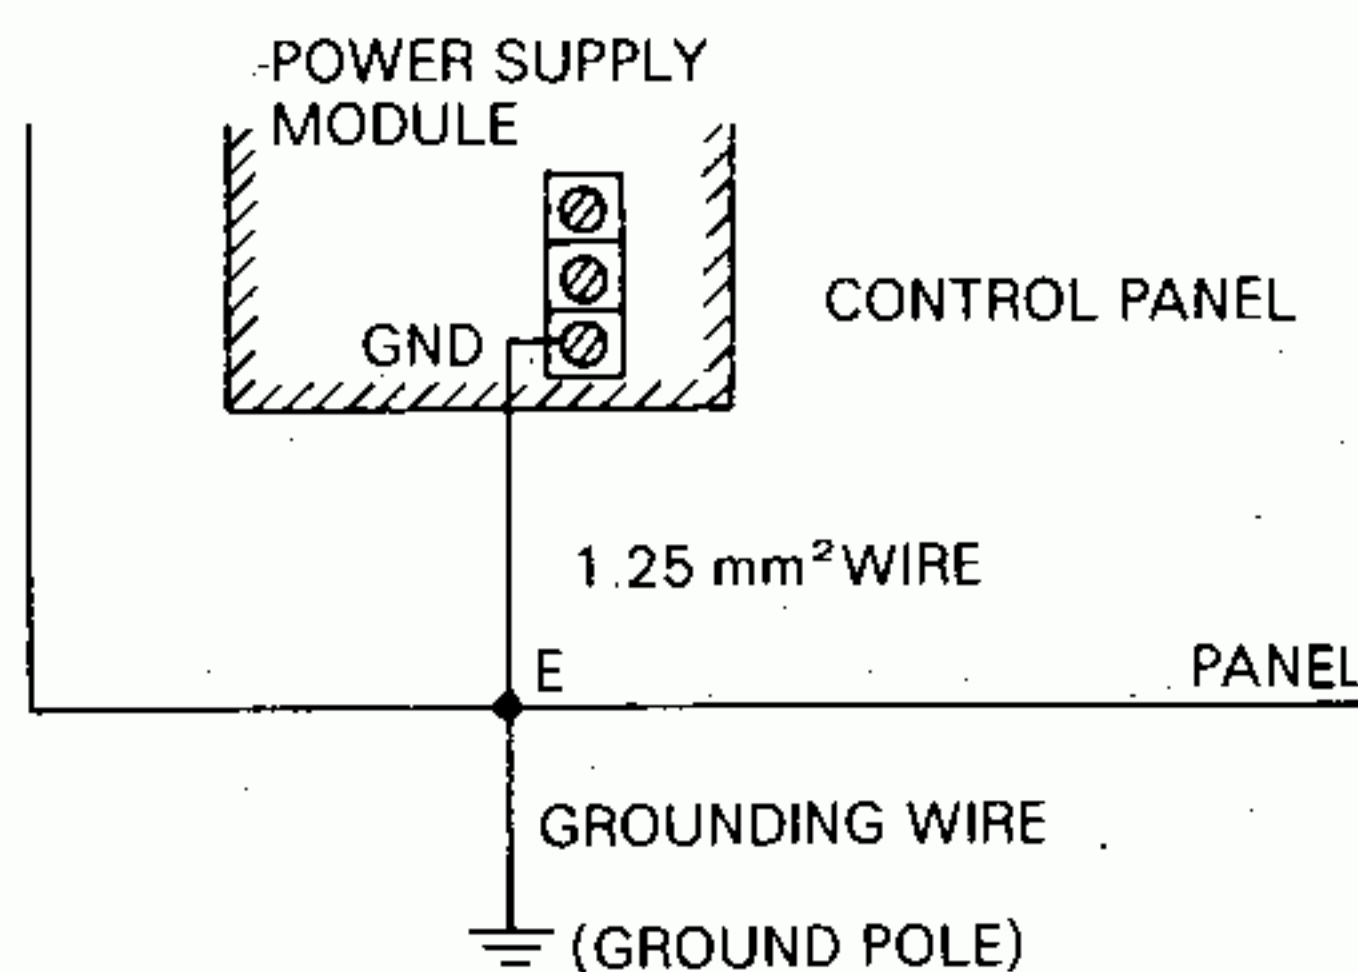

Fig. 8.24 Grounding Wire
- The GND terminal of the power supply module should be connected to the control panel housing, as shown in Fig. 8.24 at E, and connecting point E should be connected to a ground pole.